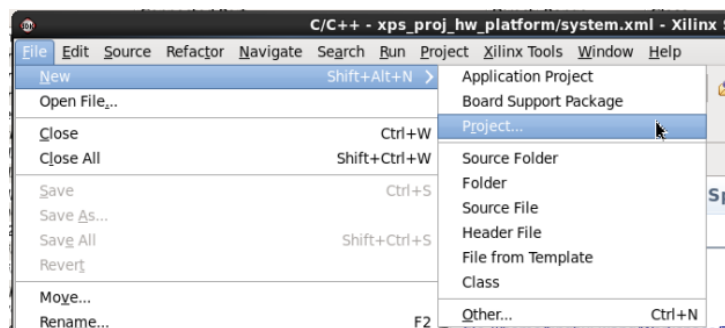

**Figure 29. Set SDK Workspace Path**
**III-2** Set Workspace to `ZedBoard_Linux_Design/hw/xps_proj/SDK/SDK_Export` and click **OK**, as shown in Figure 29.